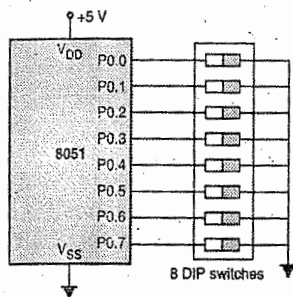

Fig. 2.2.1 : Interfacing 8 DIP switches to port 0 of 8051
- Fig. 2.2.1 shows the interfacing of DIP switches to 8051 microcontroller.